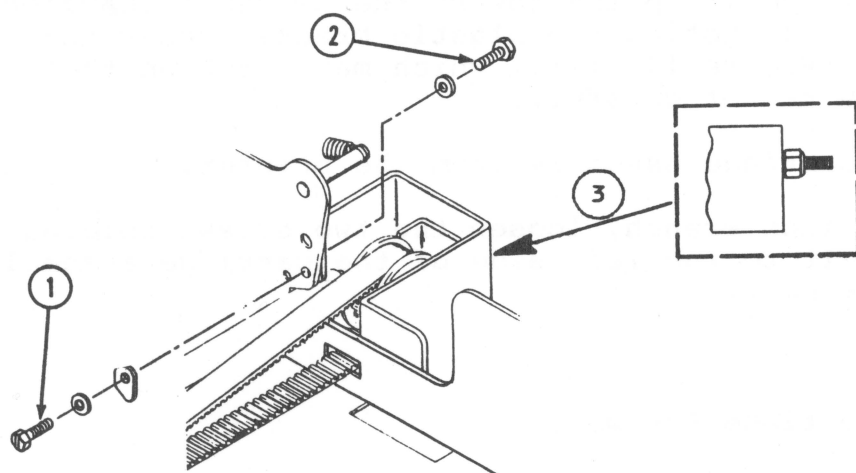

FIGURE 15
- \*8. Replace the outer screw and washer (Figure 15, #2). **DO NOT OVERTIGHTEN!**
- \*9. Reposition the two rear shaft locking plates, making sure they butt against the shaft, and tighten the screws (see Figure 15, #1).
- \*10. Reroute the drive belt: over the pulley on the left side, through the slot in the left side of the frame, across to the right side, through the slot, and around the right pulley (see Figure 15). (Reinstall the right side pulley if it has come out of its slot, making sure that the pulley has a flat brown thrust washer on either side.)
- \*12. Tighten the drive belt adjusting nut (Figure 15, #3) to take up some of the slack, but do not make the belt taut: if it is taut, the carriage assembly will not move.